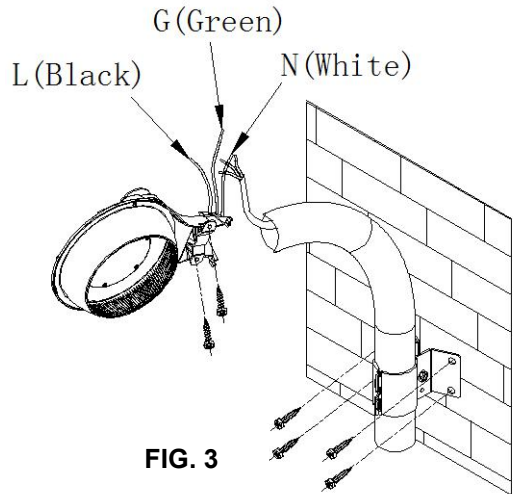

FIG. 3
- Put one end of the tube into the U-slot, and then fix the tube with two hex socket screws. Please make sure that the tube will not rotate. (See Fig. 3)